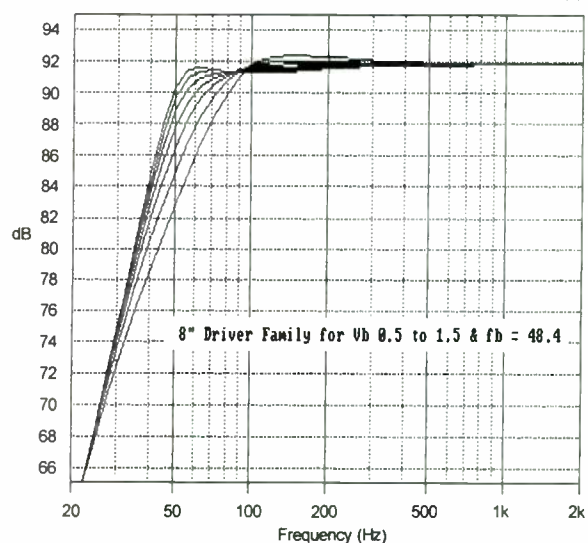

FIGURE 6: Response plots for VB family with varying box volume.
I experimented with the FAMILY window, which you can use to investigate your system's sensitivity to parameter variations. Figure 6 shows the results when I varied the box volume for the initial QB3 design from 0.5 to 1.5 ft.3 (optimum volume is 0.974 ft.3).
**Family display:** You can slow down the family generation on the screen so you can identify the value of the variable for the curve being plotted. As you can see in Fig. 6, however, there is no way to identify the variable value for a specific curve on a printout, or even which curve is which.